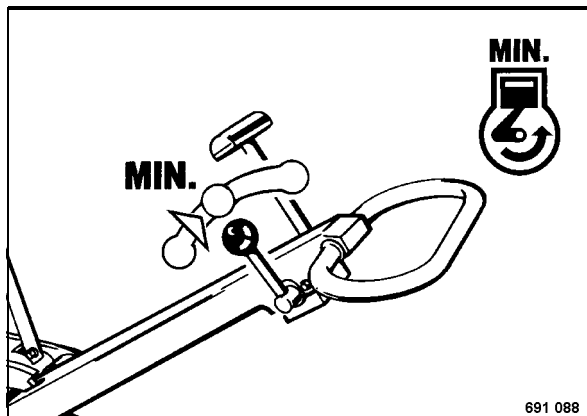

Fig. 19
- Shift the throttle lever (Fig. 19) to position 'MIN.' and let the engine run with idle speed for a short while.